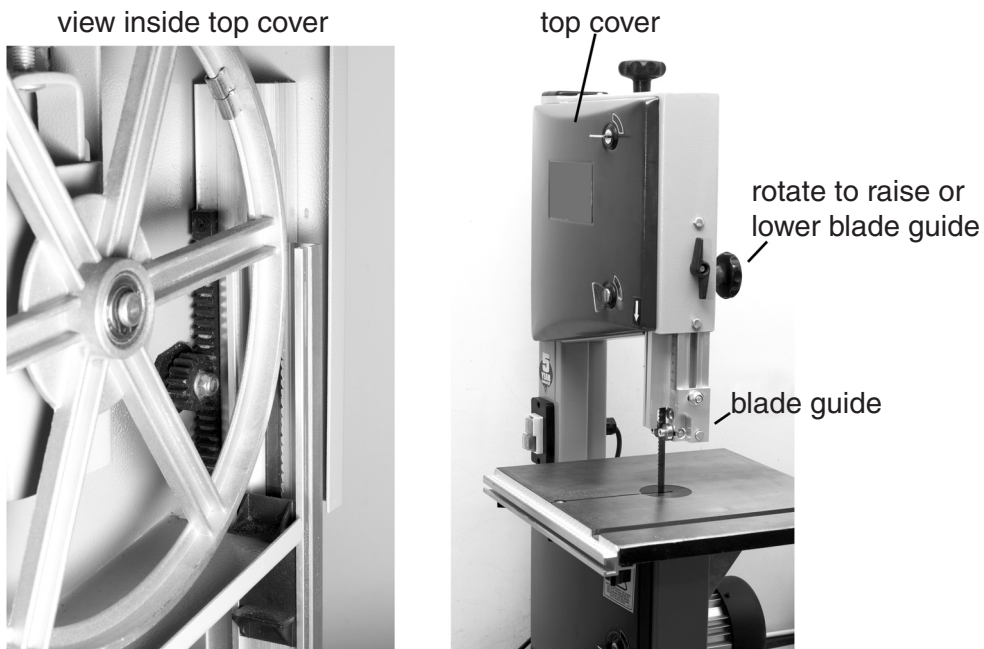

**Fig. 14**
- (iv) When the locking lever shown in Fig. 14 is moved clockwise it locks the spindle in place.